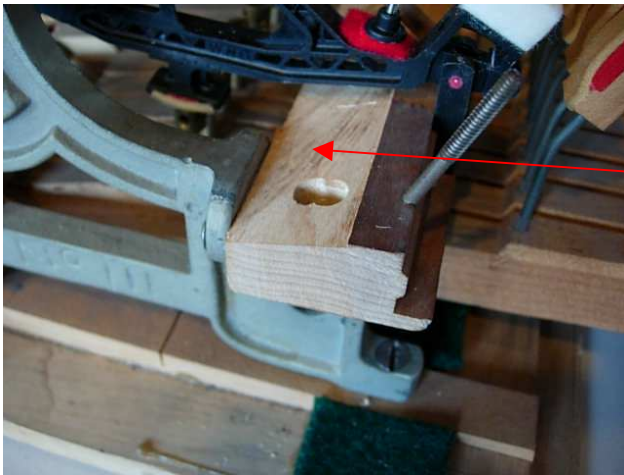

Fig. 8
- f. Re-install the repetition rail on the action brackets. (See Fig 8)